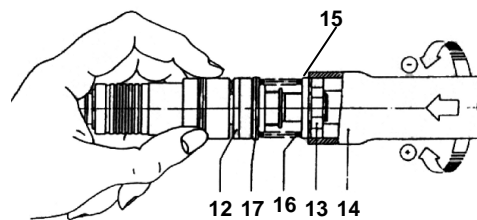
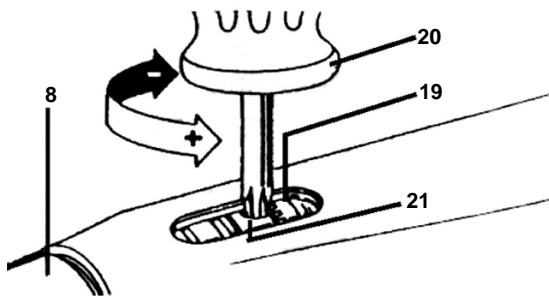

Fig. 8: Changing the spring and adjusting the clutch; 20 Watt screwdrivers
Fig. 10: Adjusting the torque (180 - 240 Watt)
- Unscrew the bearing sleeve (8) (left-hand thread), pull off the clutch (12) and disassemble the parts.
- o **20 Watt screwdrivers** (see Abb. 8)
- Unscrew the hexagonal nut (13) using a socket wrench (14). Remove the washer (15) and pressure spring (16). Do not throw the washer (17) away!
- **20 Watt screwdrivers** (see Fig. 8:):
- To make the adjustment, press the socket wrench (14) against the clutch and turn the hexagon nut (13).
- **In the case of 50 Watt - 240 Watt screwdrivers** (see Fig. 10:):
- Unscrew the bearing sleeve (8) (left-hand thread) until the recess in the housing is over the recess in the bearing sleeve.
- Turn the clutch (12) until the socket insert in the adjusting ring (21) is visible, insert socket (20, accessory) and turn the tooth washer (19) to set the required torque.